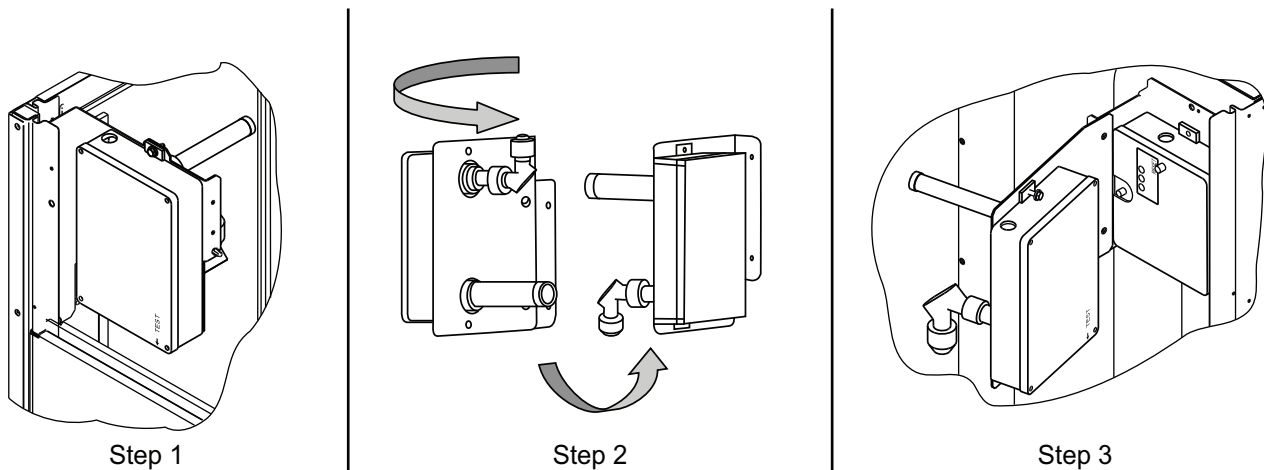

Fig. 76 — Completing Installation of Return Air Smoke Sensor
1. Unscrew the two screws holding the return-air smoke detector assembly. See Fig. 76, Step 1.
3. Turn the assembly 90 degrees and then rotate end to end. Make sure that the elbow fitting is pointing down. See Fig. 76, Step 2.
4. Screw the sensor and detector plate into its operating position using screws from Step 1. See Fig. 76, Step 3.